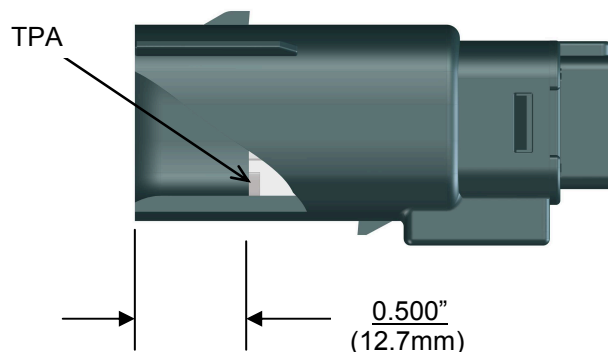

Figure 1: TPA in Pre-Locked Position
1. Begin assembly of the crimped male terminals into the plug housing by making sure the Terminal Position Assurance feature (TPA) is in the pre-locked position (See Figure 1).